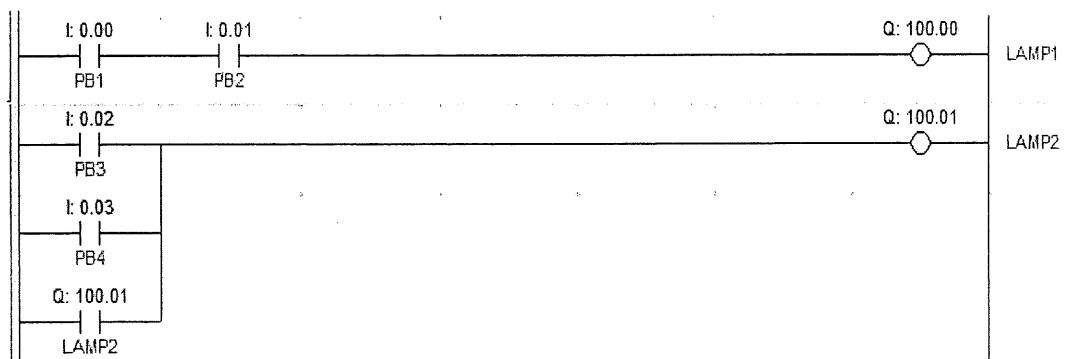

Figure 3
c. Figure 3 shows a ladder diagram for a condition that should be working as below when: -